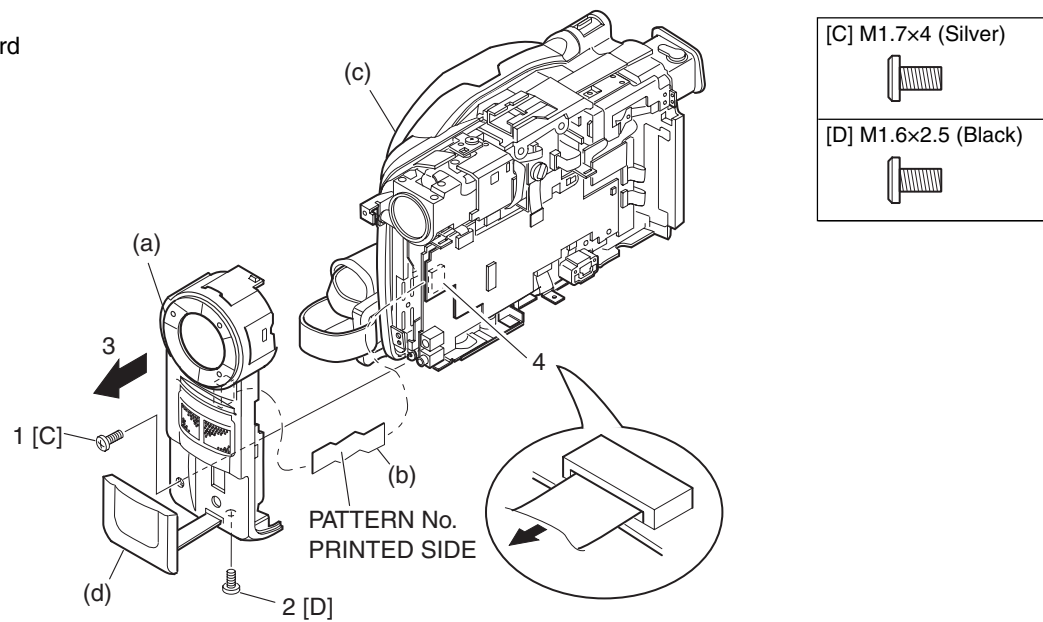

Fig. 5-3-5 Front Block, FAF Circuit Board, and R Block
(4) Front Block, FAF Circuit Board, and R Block (Fig. 5-3-5)